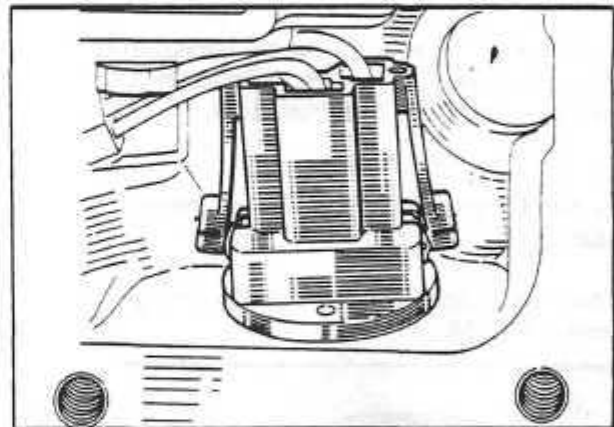

Fig. 31 SHIFT SOLENOIDS CONNECTOR
7. Release the retaining lugs on the wire connector and disconnect the solenoid wiring harness from the socket. Fig. 31